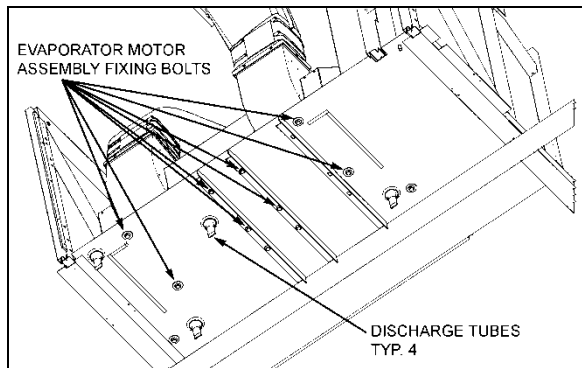

FIGURE 41: EVAPORATOR MOTOR BOLTS
- From under the vehicle, remove the eight bolts fixing the double blower fan unit base. Remove the complete unit from the evaporator compartment (Figure 41).